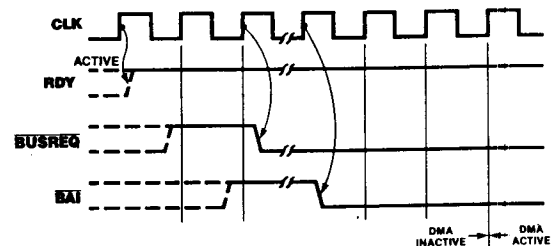

Figure 15. Bus Request and Acceptance
**Bus Requests.** Figure 15 illustrates the bus request and acceptance timing. The RDY line, which may be programmed active High or Low, is sampled on every rising edge of CLK. If it is found to be active and if the bus is not in use by any other device, the following rising edge of CLK drives  $\overline{BUSREQ}$  Low. After receiving  $\overline{BUSREQ}$ , the CPU acknowledges on the  $\overline{BAI}$  input either directly or through a multiple-DMA daisy chain. When a Low is detected on  $\overline{BAI}$  for two consecutive rising edges of CLK, the DMA will begin transferring data on the next rising edge of CLK.